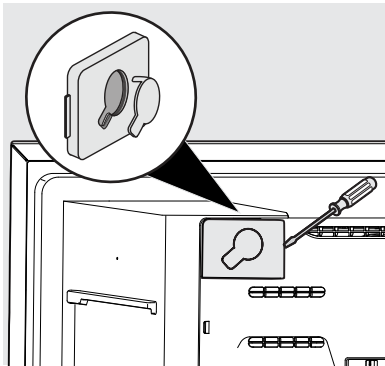

Figure 2
3. Remove water inlet and electrical cover, located on the inside of the unit, by inserting a flathead screwdriver on right side of opening in the small cover. Push to the left to disengage the snap. See Figure 2